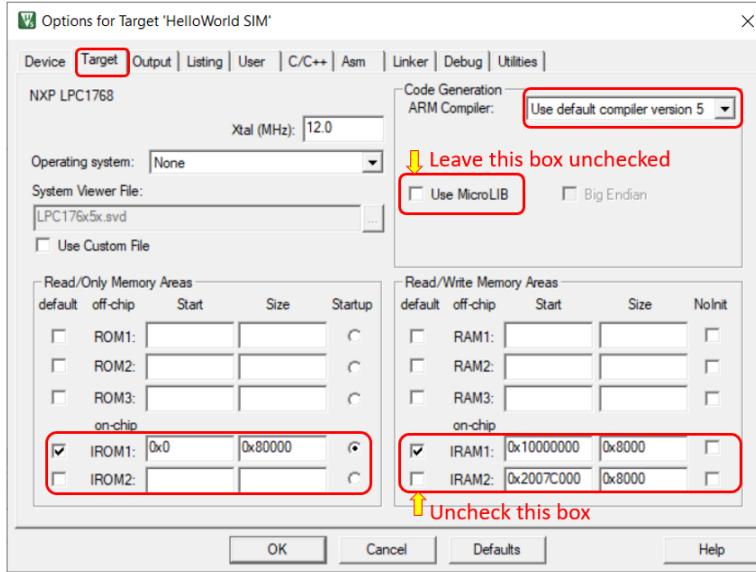

Figure 7.13: Keil IDE: Target Options Target Tab Configuration
2. Configure the Target tab as shown in Figure 7.13. We want to use the version 5 arm compiler. If you see the default compiler version is 6, then change it to 5. We also want remove the IRAM2 from the default setting.
The default image memory map setting is that the code is executed from the ROM (see Figure 7.13). Since the ROM portion of the code needs to be flashed in order to be executed on the board, this incurs wear-and-tear on the on-chip flash of the LPC1768. Since most attempts to write a functioning RTX will eventually require some more or less elaborate debugging, the flash memory might wear out quickly. Unlike the flash memory stick file systems where the wear is aimed to be uniformly distributed across the memory portion, this flash memory will get used over and over again in the same portion.